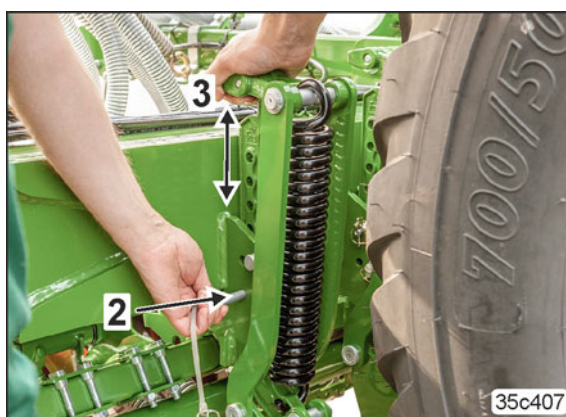

Fig. 198
3. Unlock the pin (Fig. 198/2), grab the wheel mark eradicator by the handle (Fig. 198/3), remove the pin and move the working depth to the desired position.
4. Insert the pin (Fig. 198/2) and secure with a linch pin.